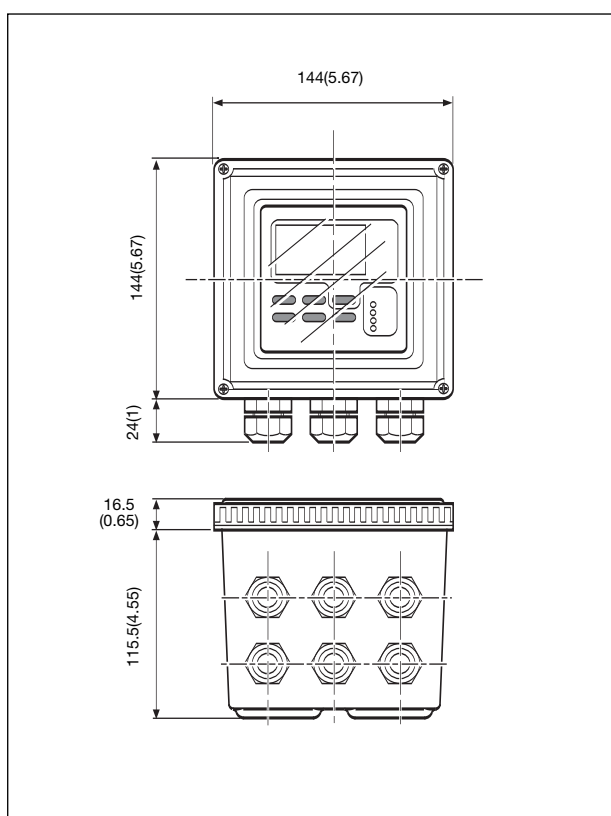

Figure 3-1. Housing dimensions and layout of glands
- Access is possible to the cable glands (see figure 3-1)